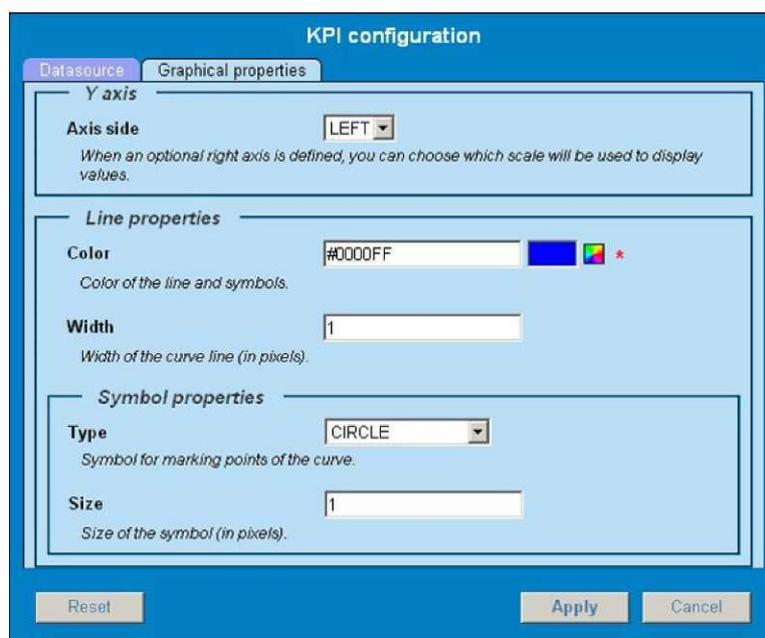

Figure 13: Graphical Properties Tab
- Select Graphical properties tab to open this screen shown in Figure 13: Graphical Properties Tab.